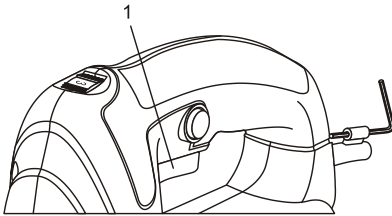

**Fig. 9**
Set the jigsaw speed by rotating the variable speed control wheel (1) to the appropriate speed (Fig. 9). Rotating the variable speed control wheel toward the rear of the jigsaw will result in slower speeds. Position the speed control dial at "1" for the slowest speed, "3" for medium speed and at "6" for the highest speed.